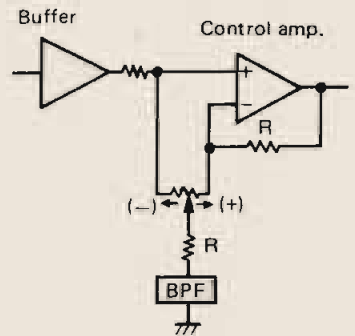
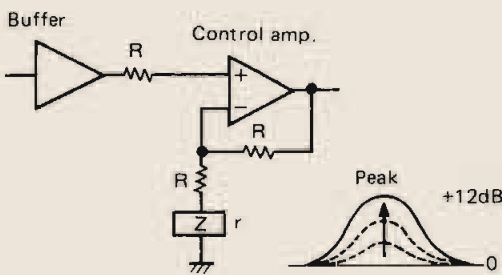
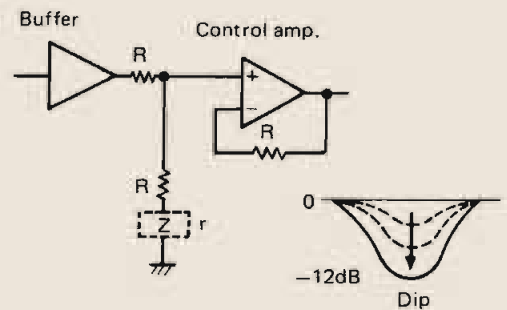

Fig. 1
Fig. 2
Fig. 3
The equalizer circuit of this unit is shown in Fig. 1. When the control volume (VR) is turned in the direction of  $\rightarrow (+)$ , NF level lowers with the connection shown in Fig. 2, causing the gain of operation amplifier to increase, then the "peak" appears. Contrarily, when VR is turned in the direction of  $\leftarrow (-)$ , the input impedance of operation amplifier becomes lowered with the connection shown in Fig. 3. Then the frequency level is "dip".